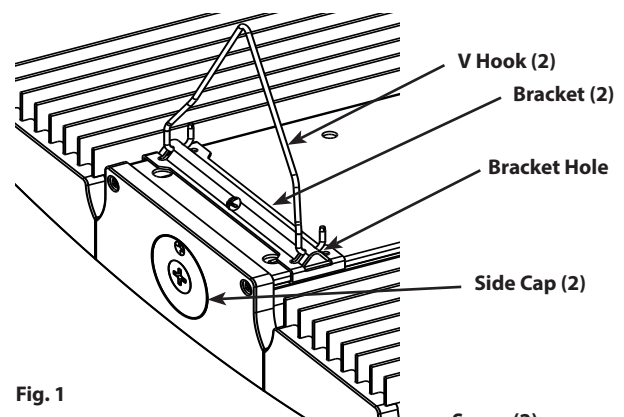
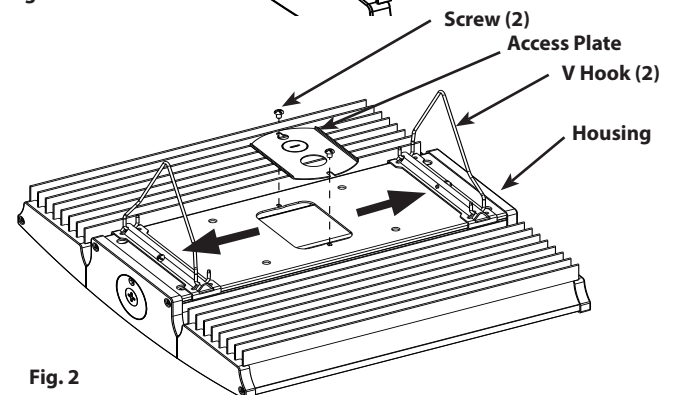

Fig. 1
Fig. 2
1. **V Hooks (2)** are provided for chain mounting. Secure **V Hooks** through **Bracket Hole** at back of **Housing** as in **Fig. 1**.
2. Connect to two (2) equal lengths of chain (by others) and/or appropriate hardware (by others) suitable for mounting surface, to suspend **Housing** from **V Hooks**.
3. Fixture mounting height and spacing should be determined by application requirements. Use chain suitable to support four (4) times the weight of the fixture.
4. **Brackets (2)** should be positioned near end of **Housing** as shown in **Fig.2**. Secure **Housing** to ceiling mounting surface and adjust **Brackets** evenly to ensure **Housing** is stabilized.